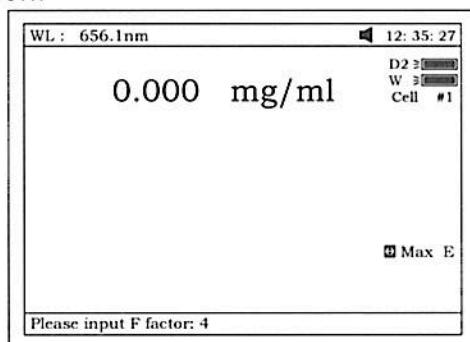

Fig 23
- 4.1 Press **【F3】** to input known F value, Fig 23. Then push the sample into Main Light Path to take reading of concentration